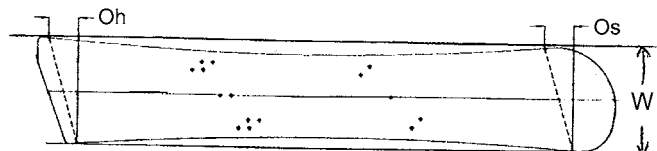

FIG. 5 Top View of an Asymmetrical Snowboard
**asymmetrical**—this refers to a snowboard shape that does not have a longitudinal line of symmetry. Heel-side and toe-side sidecuts shaped and offset differently from each other; they are not mirror images of each other. This typically requires that a different snowboard be utilized for regular-foot (left foot forward) and goofy-foot (right foot forward) snowboard binding mounting positions (Fig. 5).
**asymmetrical offset,  $O_s$ ,  $O_h$** —the distance along the longitudinal axis that each side of an asymmetrical shape is offset from the other side. Offset may be different at the shoulder and heel (Fig. 5).